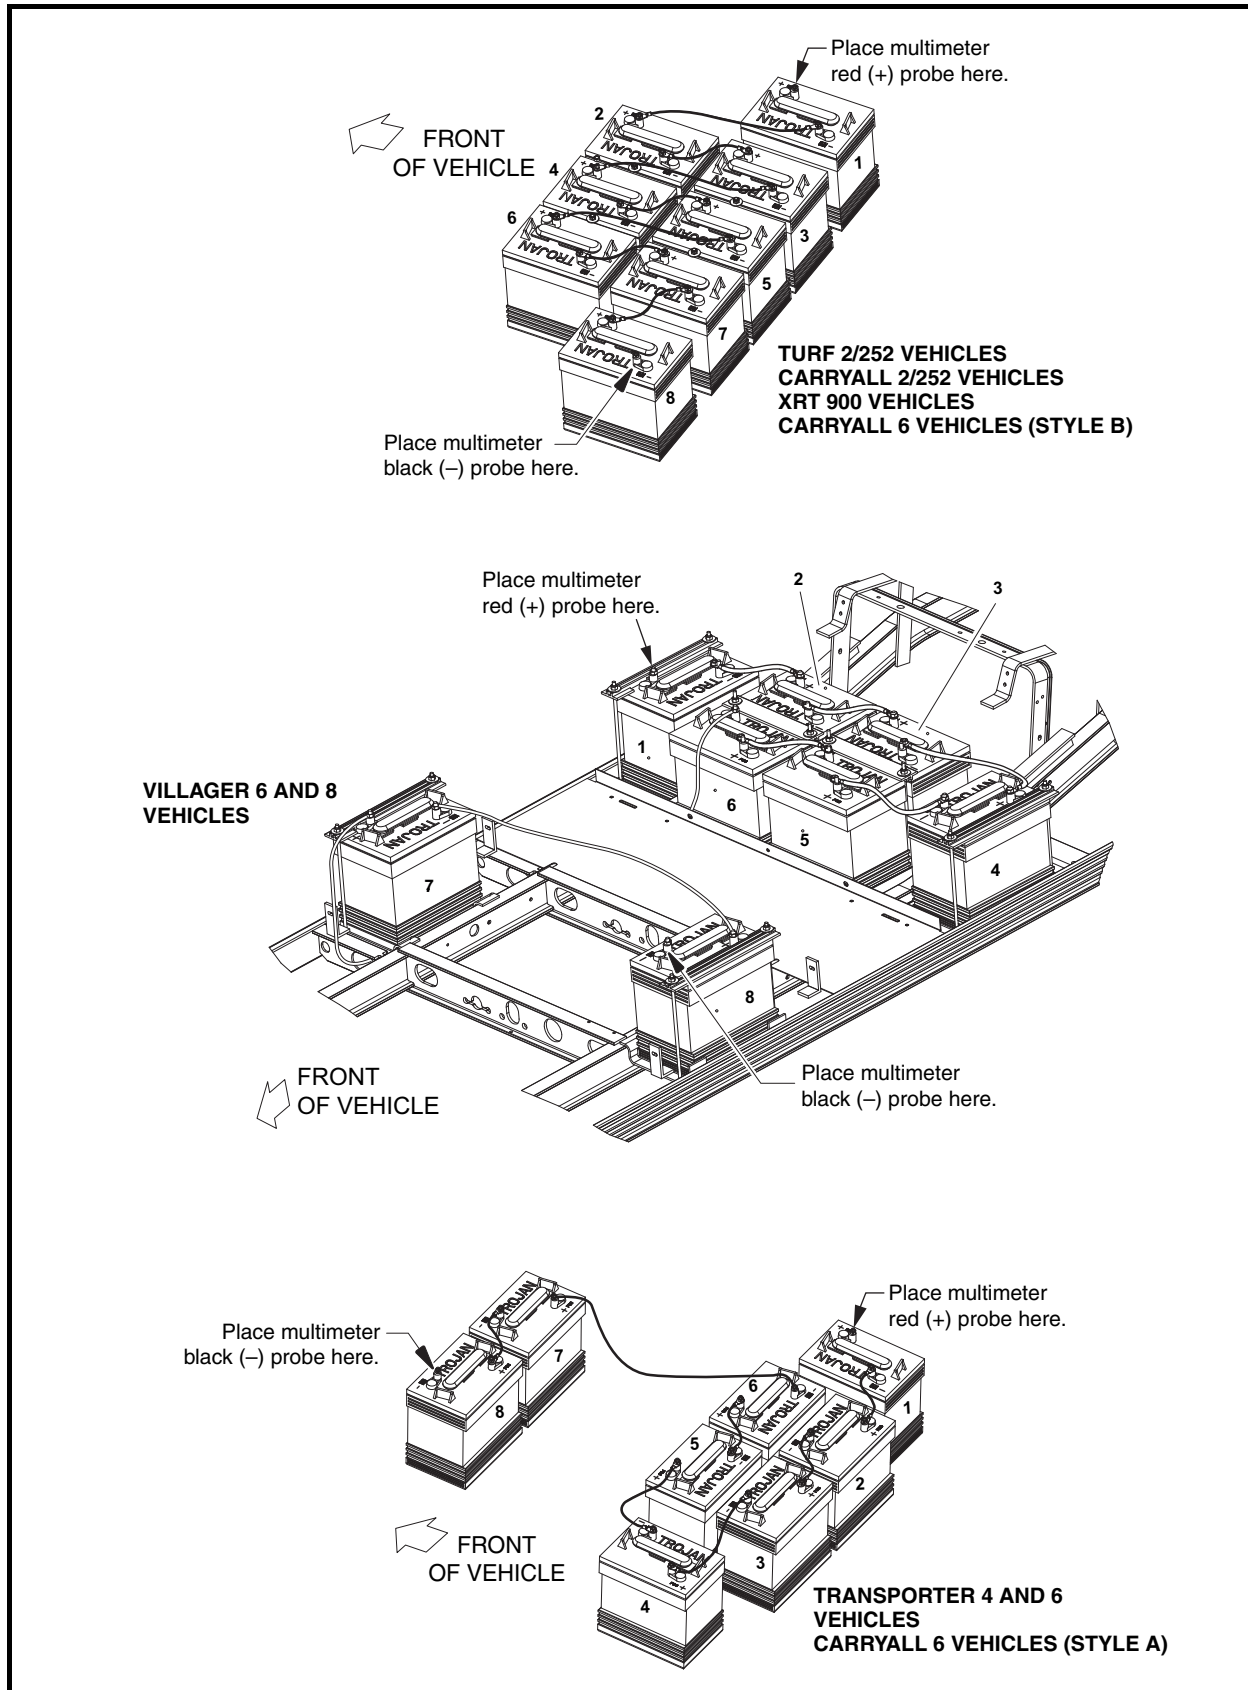

Figure 8-8 IQ Plus Battery Configuration
4. With a multimeter set to 200 volts DC, measure the voltage of the battery pack between the positive (+) post of battery no. 1 and the negative (–) post of battery no. 8 (**Figure 8-8, Page 8-14**). Normal no-load voltage should be between 50 and 52 volts for fully charged batteries. The voltage of the battery pack must be over 32 volts DC to allow the onboard computer to close the charger relay. If battery pack voltage is too low to start charger, temporarily bypass the charger relay. **See Charging a Battery Pack that has Low Voltage on page 8-29.**